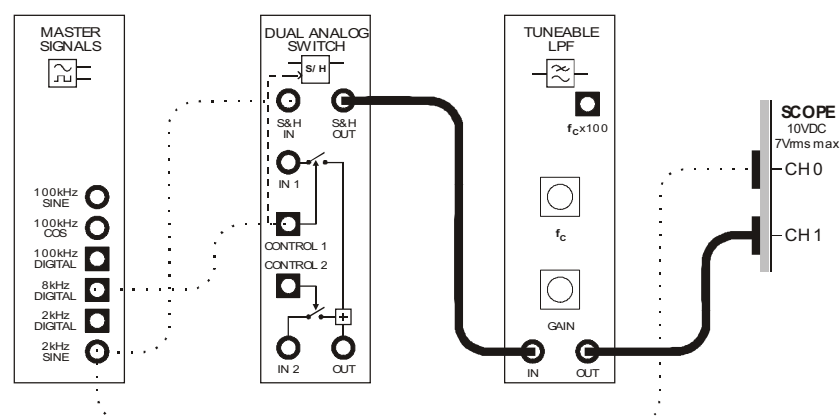
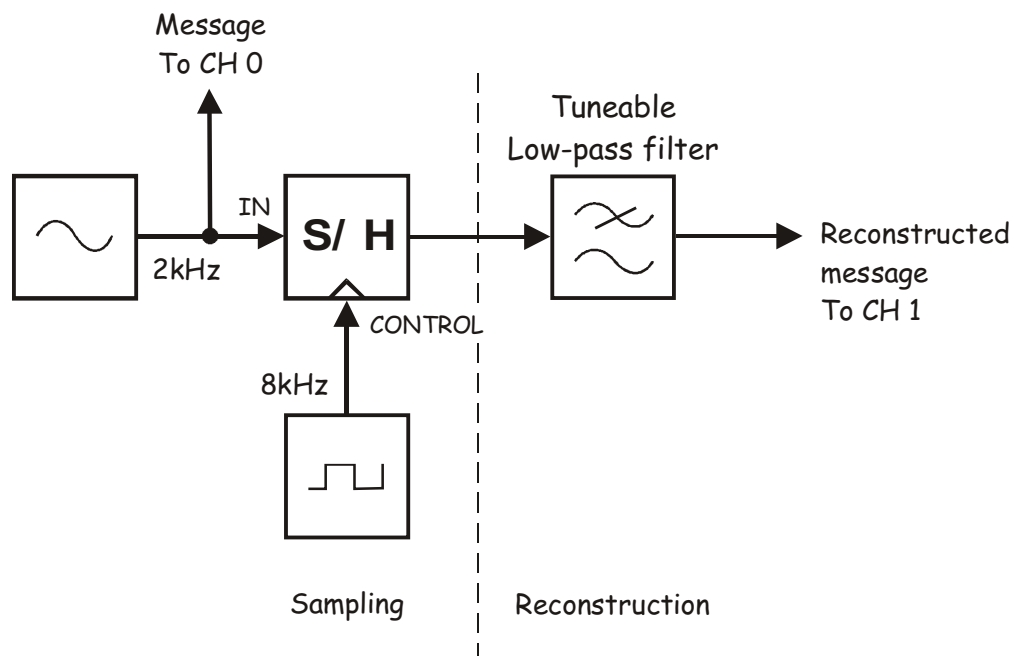

Figure 9
Figure 10
41. Modify the set-up as shown in Figure 9 below.
The set-up in Figure 9 can be represented by the block diagram in Figure 10 below. The Tuneable Low-pass Filter module is used to recover the message. The filter is said to be "tuneable" because the point at which frequencies are rejected (called the *cut-off frequency*) is adjustable.